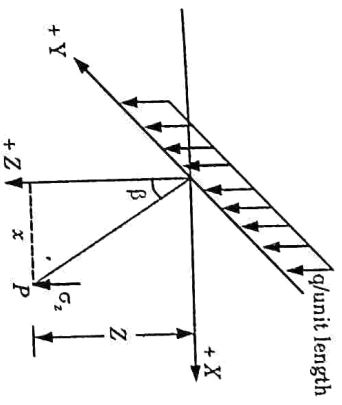

Fig. 4.8.1. Vertical stress due to line load.
i. If the line load is of intensity q per unit length parallel to Y-axis on the surface of a semi-infinite elastic medium, the vertical stress σ_z at a point P, as shown in Fig. 4.8.1, is given by,